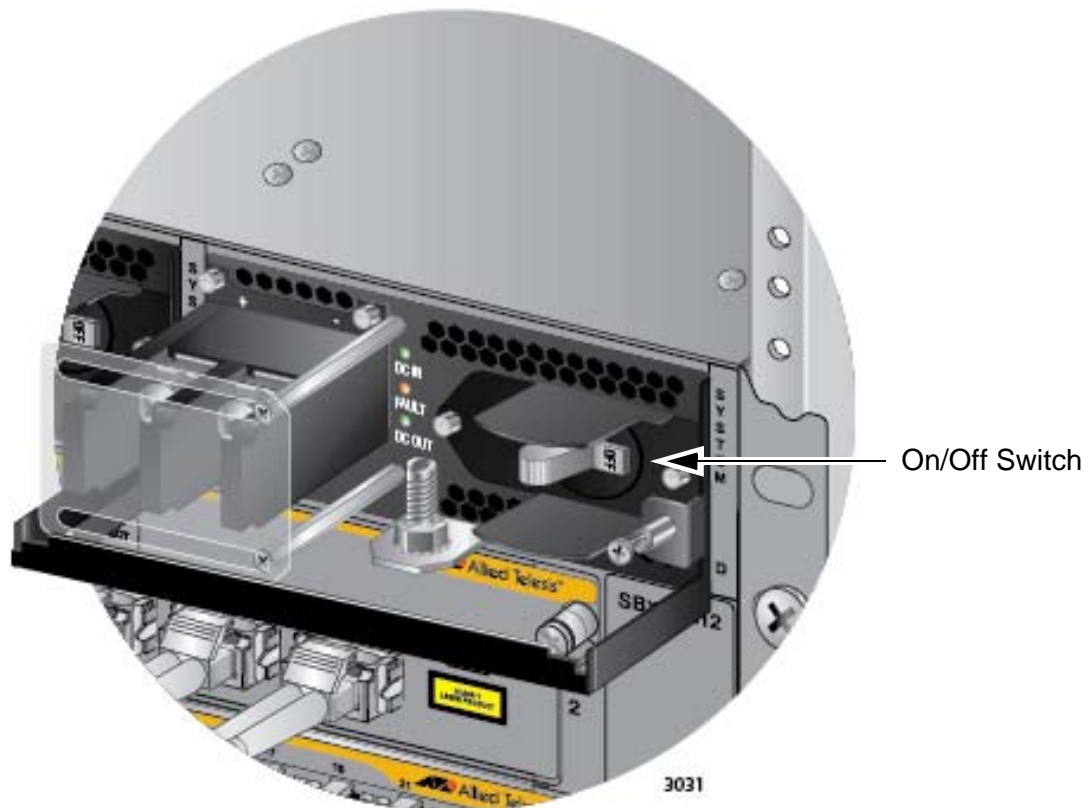

Figure 118. On/Off Switch on the AT-SBxPWRSYS1 DC Power Supply
3. Verify that the On/Off switch on the AT-SBxPWRSYS1 DC Power Supply is in the Off position. Refer to Figure 118 on page 180.
13. Turn the On/Off switch on the power supply to the On position. See Figure 118 on page 180.
2. Verify that the On/Off switch on the AT-SBxPWRSYS1 DC Power Supply is in the Off position. Refer to Figure 118 on page 180.
12. Turn the On/Off switch on the power supply to the On position. See Figure 118 on page 180.
11. Turn the On/Off switch on the power supply to the On position. See Figure 118 on page 180.